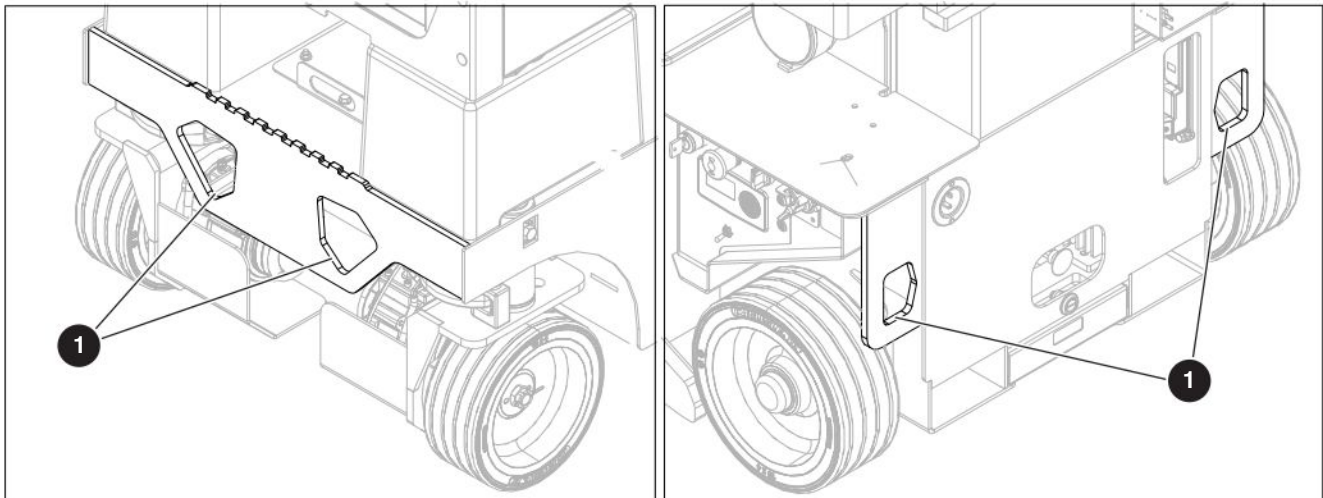
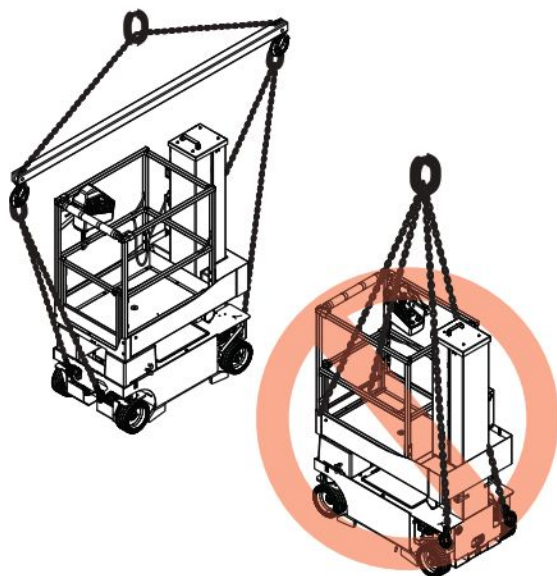

Figure 02 Tie-down and lift points
Figure 03 Appropriate method to hoist
- Attach the rigging to all **four lift points** ❶. Refer to Figure 02 & Figure 03.
- Tie down the MEWP to the transport vehicle using the four **tie-down points** ❶. Refer to Figure 02.
Make sure you use the correct lift method. An incorrect lift method, such as the one circled in Figure 03, can cause damage to the MEWP.